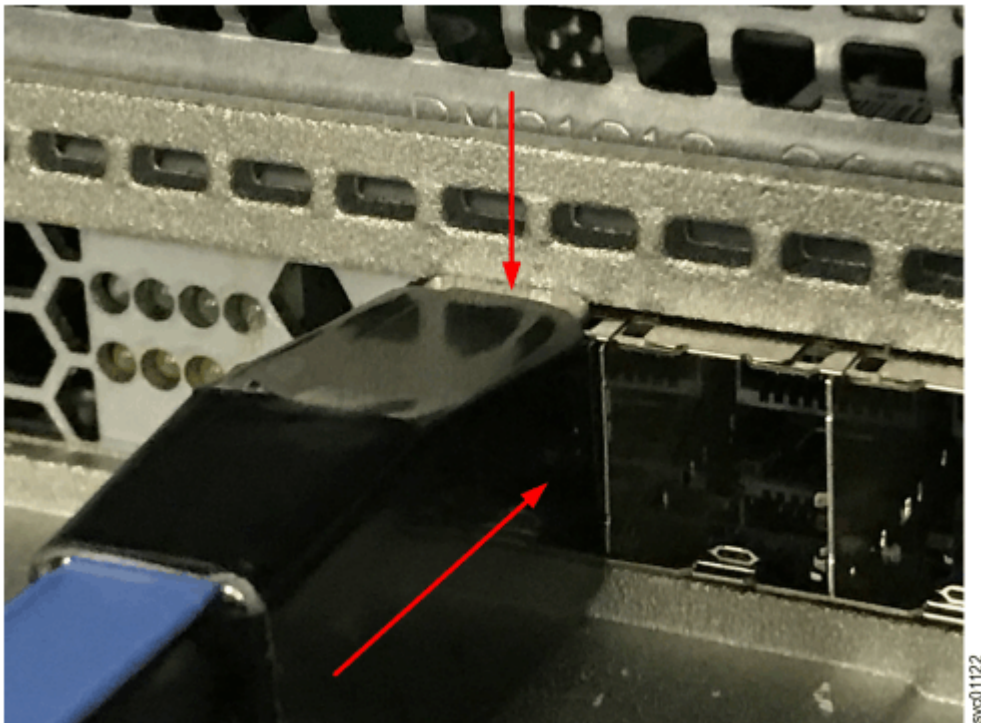

Figure 52. Pushing the SAS cable latch closed
- Insert the connector gently until it clicks into place. If you feel resistance, the connector is probably oriented the wrong way. Do not force it. See Figure 52 on page 94.